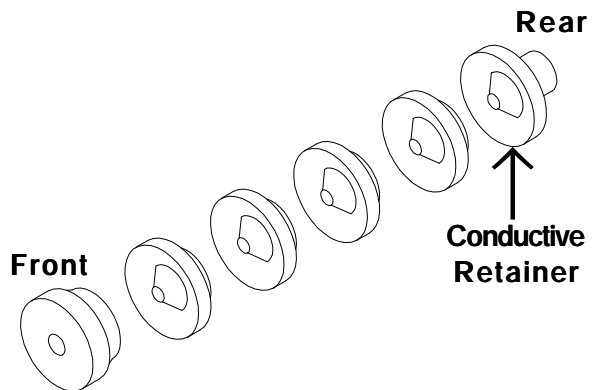

Figure 16: Chevron Seal Assembly
- Unscrew needle/electrode from shaft and slide parts off of the shaft. (See Figure 16).